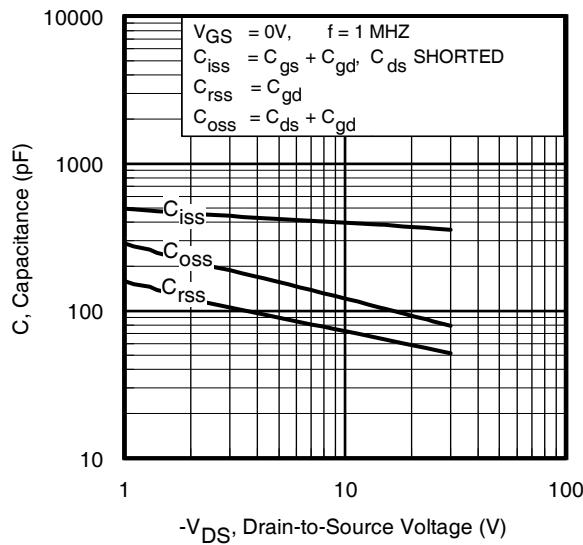

**Fig 16.** Typical Effective Transient Thermal Impedance, Junction-to-Ambient
- ① Repetitive rating; pulse width limited by max. junction temperature. (See fig. 16)
② Pulse width  $\leq 400\mu\text{s}$ ; duty cycle  $\leq 2\%$ .
- ③ Surface mounted on 1 in square Cu board
④  $R_\theta$  is measured at  $T_J$  approximately  $90^\circ\text{C}$